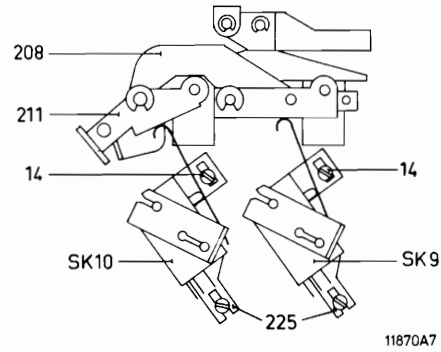

Fig. III-13
- Adjustments can be made by relocating mounting bracket 225 of SK9 after loosening screws 14 a few turns (Fig. III-13).
- Adjustments can be made by relocating mounting bracket 225 of SK10 after loosening screws 14 a few turns (Fig. III-13).